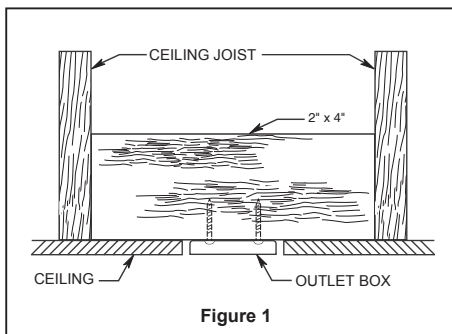
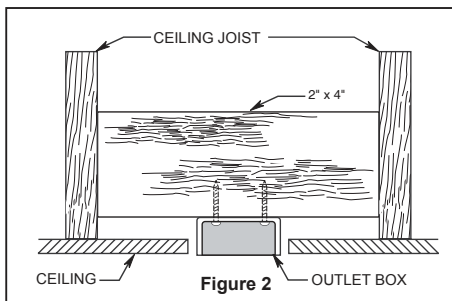
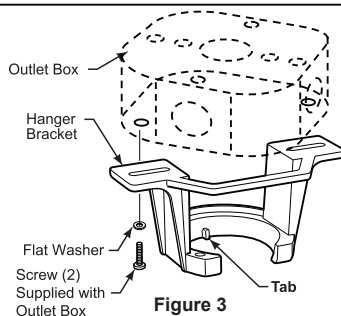

Figure 1
Figure 2
Figure 3
Your new ceiling fan will require a grounded electrical supply line of 120 volts AC, 60 HZ, 15 Amp Circuit. Electrical code requires use of a fan-rated outlet box to support the extra weight and motion associated with a ceiling fan. A fan-rated box will be labeled as such and typically supports up to a 70lb ceiling fan. Fan-Rated Outlet Boxes vary in ratings and design. Ensure the ratings of your ceiling fan outlet box meet the requirements for the ceiling fan being installed. Figure 1, Figure 2 and Figure 3 depicts different structural configurations that may be used for mounting the outlet box.
Low profile box (Figure 1)
Deep box (Figure 2)
Deep box with brace (Figure 3)
3. Remove the three stabilizer tabs and plastic bag from the motor. Discard the stabilizer tabs. (Figure 3)
1. Securely attach the hanger bracket to the outlet box (not included) using the outlet box screws and washers supplied with the outlet box. (Figure 3)
2. Slide the receiver into the hanger bracket before wiring as shown in figure 3.
- ☐ 3. Remove one of the three screws in the light kit. Retain the screw for later and slightly loosen the remaining two screws. (Figure 3)
- ☐ 3. Remove the battery cover from remote control by screwdriver and retain the screw for later. (Figure 3)